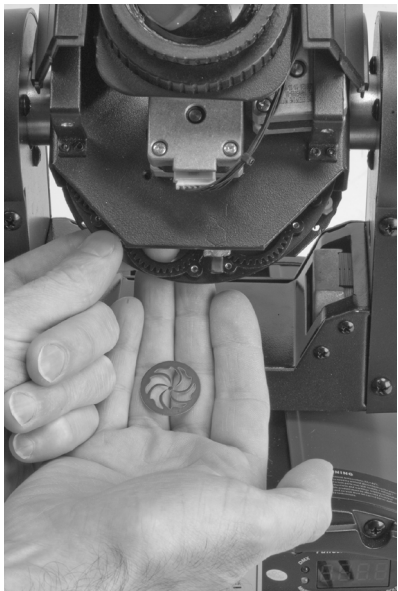
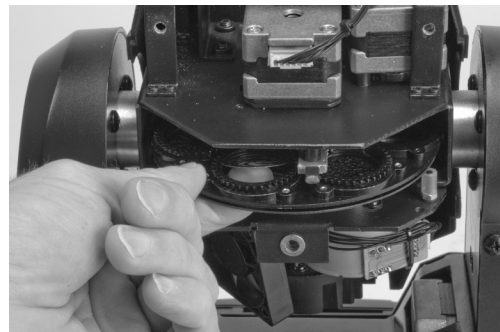

Figure 4
Figure 3
4. Using a pair of needle nose pliers, grab the fixture ring that holds the gobo in place and remove the ring (Figure 3).
5. Once the ring is removed, carefully use your finger to push the gobo up and out (Figure 3). You can then tilt the head so that the gobo falls into your hand (Figure 4).